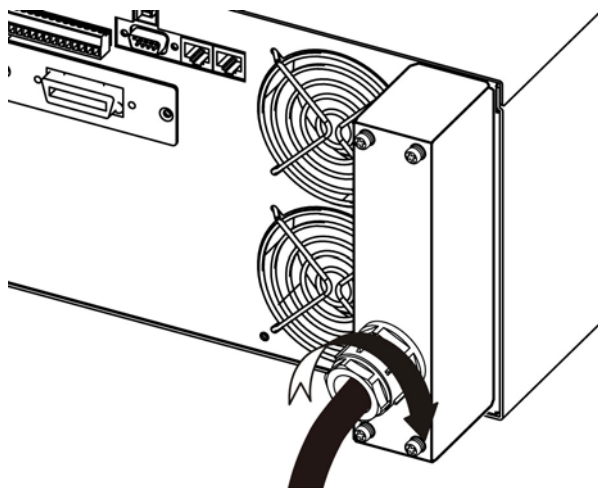

Figure 13 Assembling 62050P Input Terminal Safety Cover - 4
- d. At last secure the anti-pull device as Figure 13 shows.